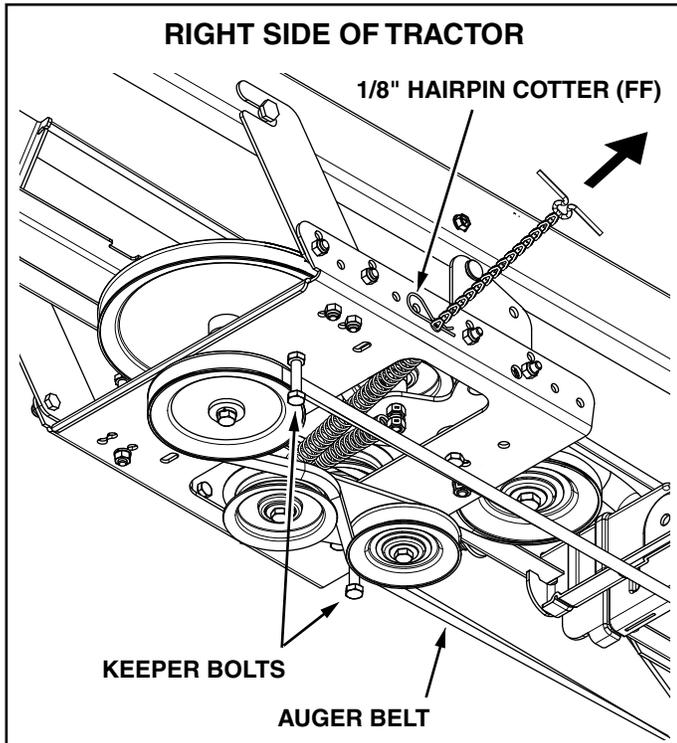

FIGURE 57 VIEWED FROM UNDERNEATH
STEP 58: (SEE FIGURE 57)
- Pull the tensioning chain until it is extended out as far as the 3/32" hairpin cotter installed in the chain will allow. Install a 1/8" hairpin cotter (FF) through the chain to secure it in the extended position.